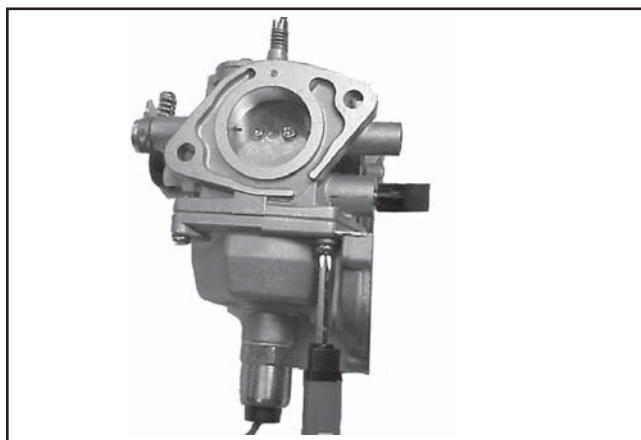

Figure 5-14. Installing Fuel Bowl.
8. When the proper float height is obtained, carefully reinstall the fuel bowl, with the O-Ring(s) in place, onto the carburetor. Secure with the four original screws. Torque the screws to **2.5 ± 0.3 N·m (23 ± 2.6 in. lb.)**. Reattach the accelerator pump hose (if so equipped), and secure with the clip. See Figure 5-14.